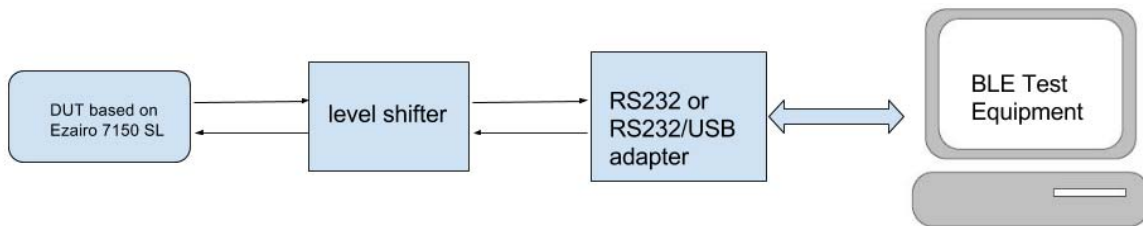

Figure 1. Connection Diagram for Bluetooth Test
In this configuration, you can change to the other DIO. You will need to solder two wires onto the two DIO pads, and connect to a level shifter since our logic level is 2 V, which is not compatible with RS232 level. This set-up is shown in Figure 1.
3. Connect the DUT, level shifter, RS232 USB adapter, and BLE test equipment as shown in Figure 1.